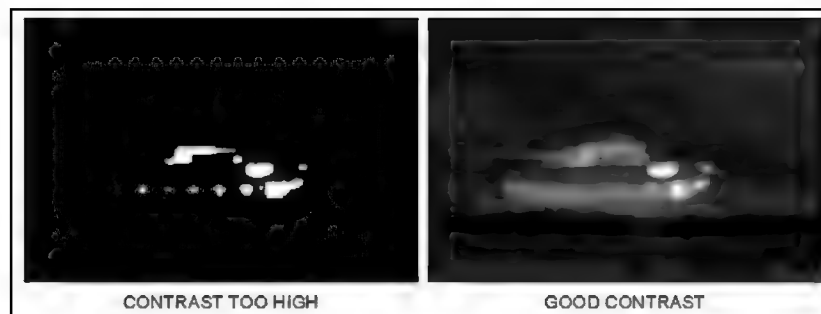

Figure E-21. High versus good contrast adjustments.
- Contrast too high (Figure E-21, page E-14). When contrast is too high, all objects are adjusted away from the shades of green in the middle toward the two extremes, so they appear either bright green or black.